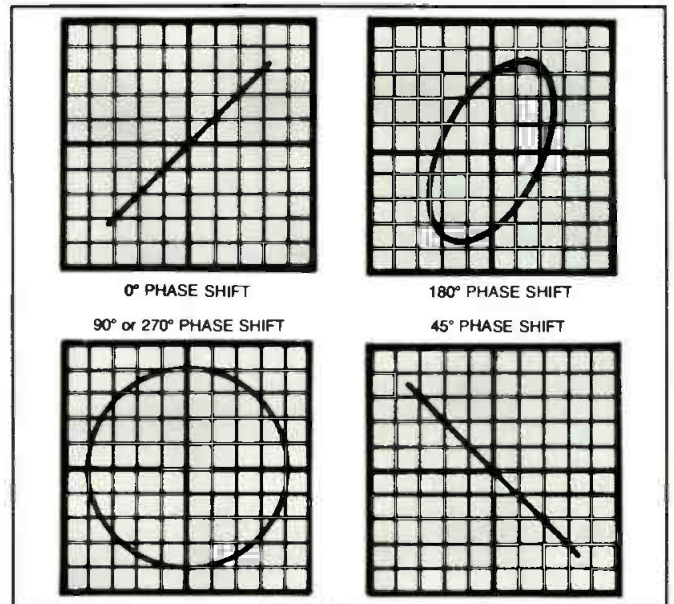

Figure 3. Oscilloscope phasing patterns. (Courtesy 3M/ITC.)
3. Adjust the oscilloscope horizontal and vertical gain controls to give the display for zero-degree phase shift, as shown in the scope pictures of Figure 3. Polarity inversion in some oscilloscopes will result in a display that is 180 degrees out of phase, when the input is correctly phased. Many scopes have horizontal polarity inversion switches to correct this situation. When using a scope without such a control, reverse the polarity of the horizontal input signal to achieve the correct pattern. (We make the assumption here